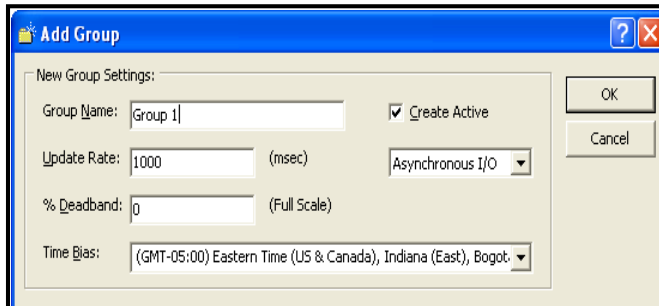

Figure 37: The Add Group Window
- b. Click on the **Add Group** button, or right-click on the server and click **Add Group**. In either case, the Add Group window appears (shown in Figure 37 below).